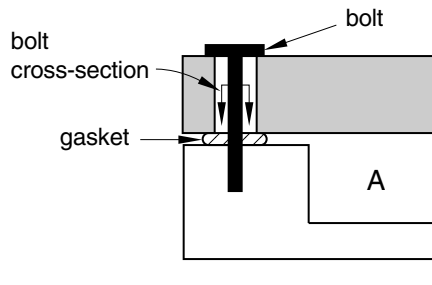

Figure 22–1 Modeling a pre-tensioned bolt.
Bolt loads model tightening forces or length adjustments in bolts or fasteners. For example, Figure 22–1 shows a container (A) that is sealed by tightening the bolts that hold the lid, which places the gasket under pressure.